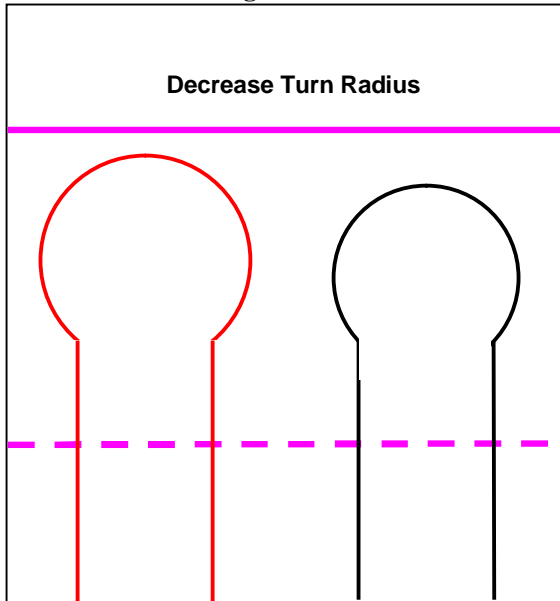

Figure 9
- Decrease Turn Radius (figure 9)